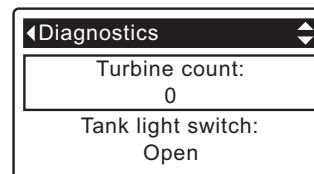

FIG. 96
2. Press the DOWN (▼) button to scroll through the list until **Turbine Count** is displayed (See Figure 96).